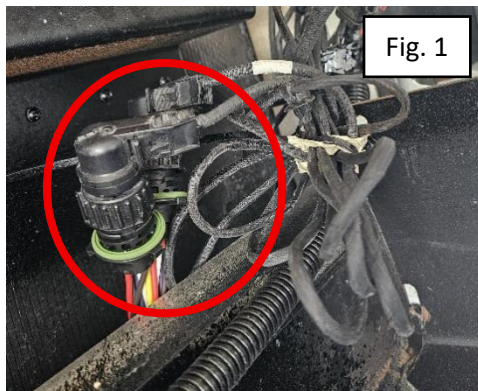

Fig. 1
1. Disconnect the two 7-Way cavity plugs under the chassis. It is near the rear drive side leveling leg. (Figure 1)
6. Re-connect the two 7-Way cavity plugs underneath the coach. (Figure 1)